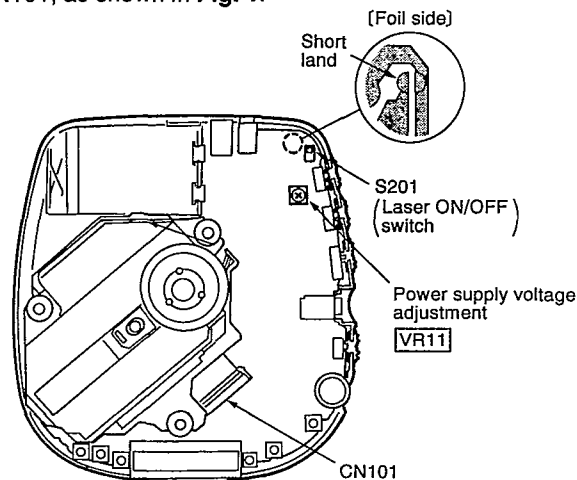

Fig. 1
Short-circuit the lands of the laser ON/OFF switch (S201) by soldering them. It turns “ON” position. (Refer to below Fig. 1 or printed circuit board and wiring connection diagram for short land location on page 25.)
2. Take care to connect CN101, as shown in Fig. 1.
4. Adjust **VR11** on the P.C.B. at 3.32 ± 0.02 V, as shown in **Fig. 1**.